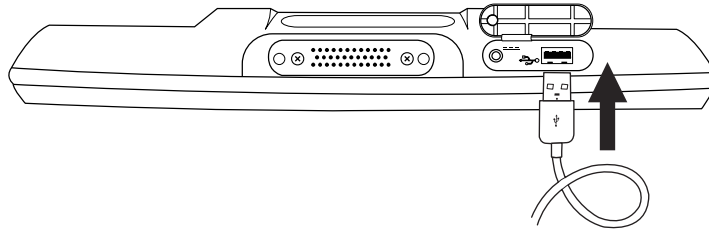
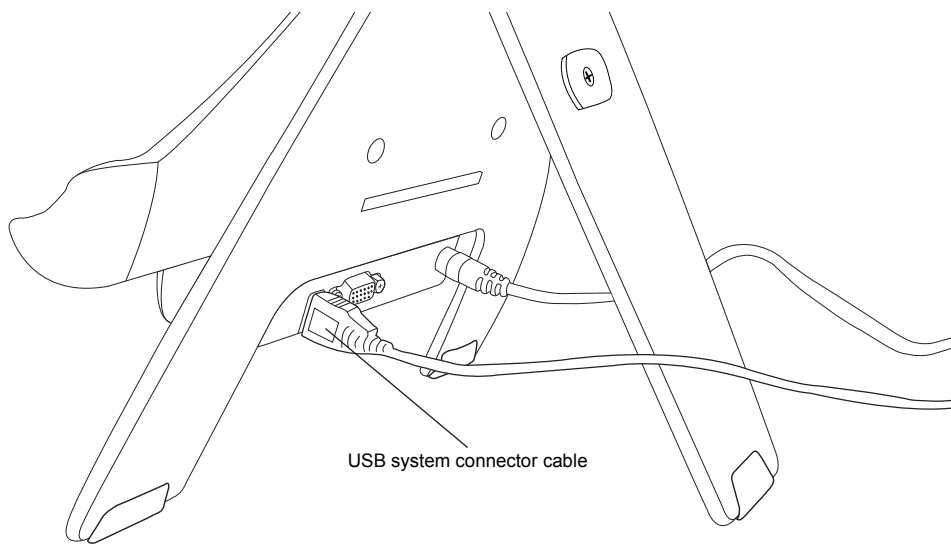

Figure 13. Connecting the USB system connector cable to the programmer.
Figure 14. Connecting the USB system connector cable to the docking station.
3. Correctly orient the USB end of the cable in relation to the USB port on the programmer (or docking station if the programmer is docked) and insert the USB plug into the port (Figure 13 and Figure 14). When the telemetry head is connected to the programmer via USB system connector cable, a button showing a telemetry head with USB will appear towards the top right of the programmer screen (Table 7 on page 37).